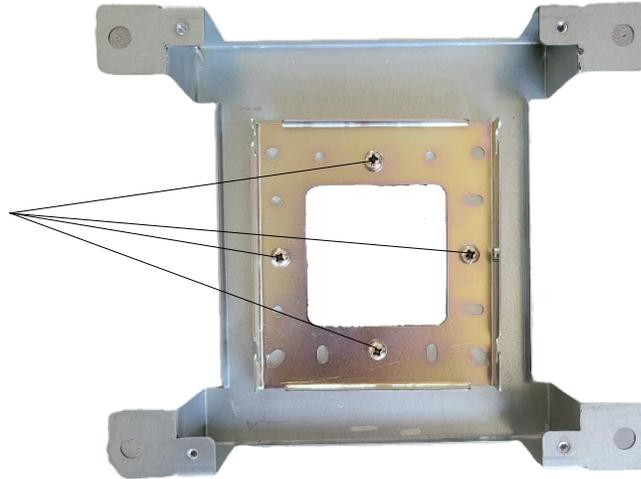

Figure 71: APV3-BDA - Mounting Standard Mounting Bracket to Flush Mount Bracket
- Install the APV3-BDA standard mounting bracket into the flush mount bracket using the (4) screws removed in the previous step. Ensure the standard mounting bracket is installed with the HEX Screw hole on the right side. See Figure 71 below.